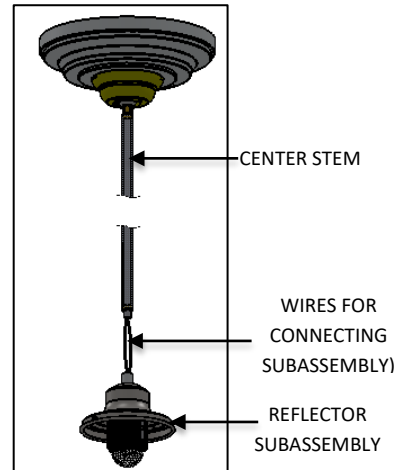

FIG. 14 – REFLECTOR INSTALLATION
7. Assemble the REFLECTOR SUBASSEMBLY to the CENTER STEM at COUPLER and pass the wire through for connecting to the REFLECTOR SUBASSEMBLY as shown in FIG.14.